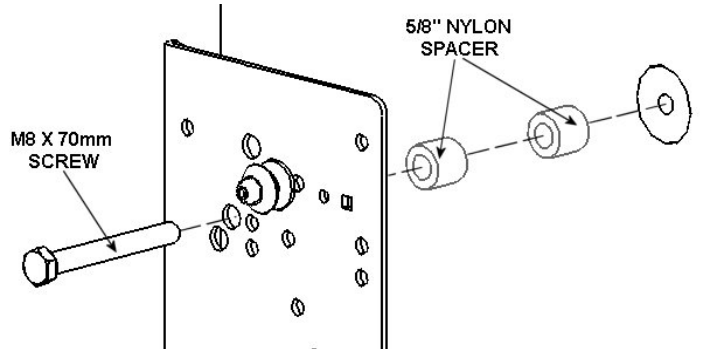
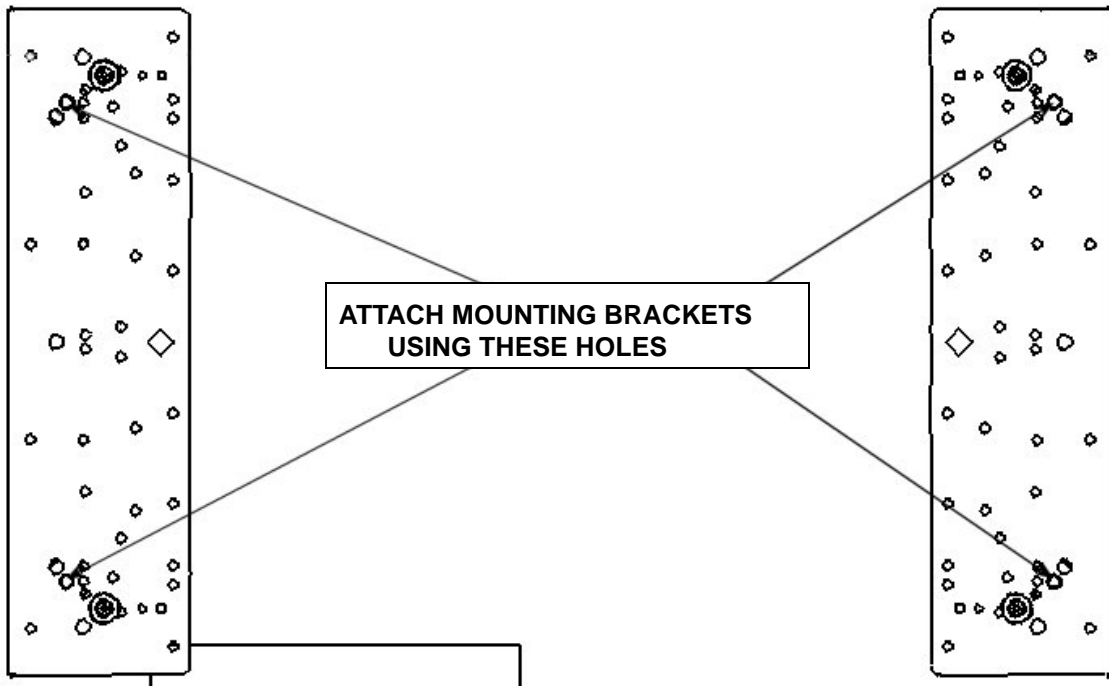

Figure 6. Spacer Installation for Group 2
Figure 7. Bracket Attachment for Group 2
3. Place eight 5/8" Nylon spacers over the mounting holes on your display (see Figure 6).
4. Place the interface brackets over the Nylon spacers (see Figure 6 and Figure 7).
6. Using the hardware in the parts bag labeled B, attach the interface brackets to your display (see Figure 6 and Figure 7). Do not overtighten the mounting screws.